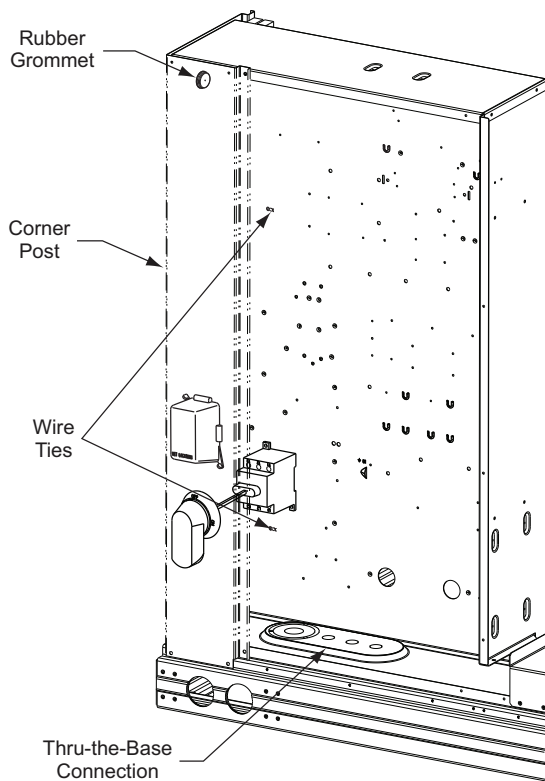

Fig. 48 — Field Control Wiring Raceway
Correctly rated low voltage wire can be routed through the rubber grommet located on the corner post adjacent to the control box access panel. Route wire through the grommet and then route the wire behind the corner post utilizing the factory provided wire ties secured to the control box. This will ensure separation of the field low voltage wire and the high voltage circuit. Route the low voltage wire to the central terminal board. See Fig. 48.
2. Feed wires through the raceway built into the corner post (see Fig. 48) to the 24 v barrier located on the left side of the control box. The raceway provides the UL-required clearance between high-voltage and low-voltage wiring.
2. Feed wires through the raceway built into the corner post (see Fig. 48) to the 24-v barrier located on the left side of the control box. The raceway provides the UL-required clearance between high-voltage and low-voltage wiring.